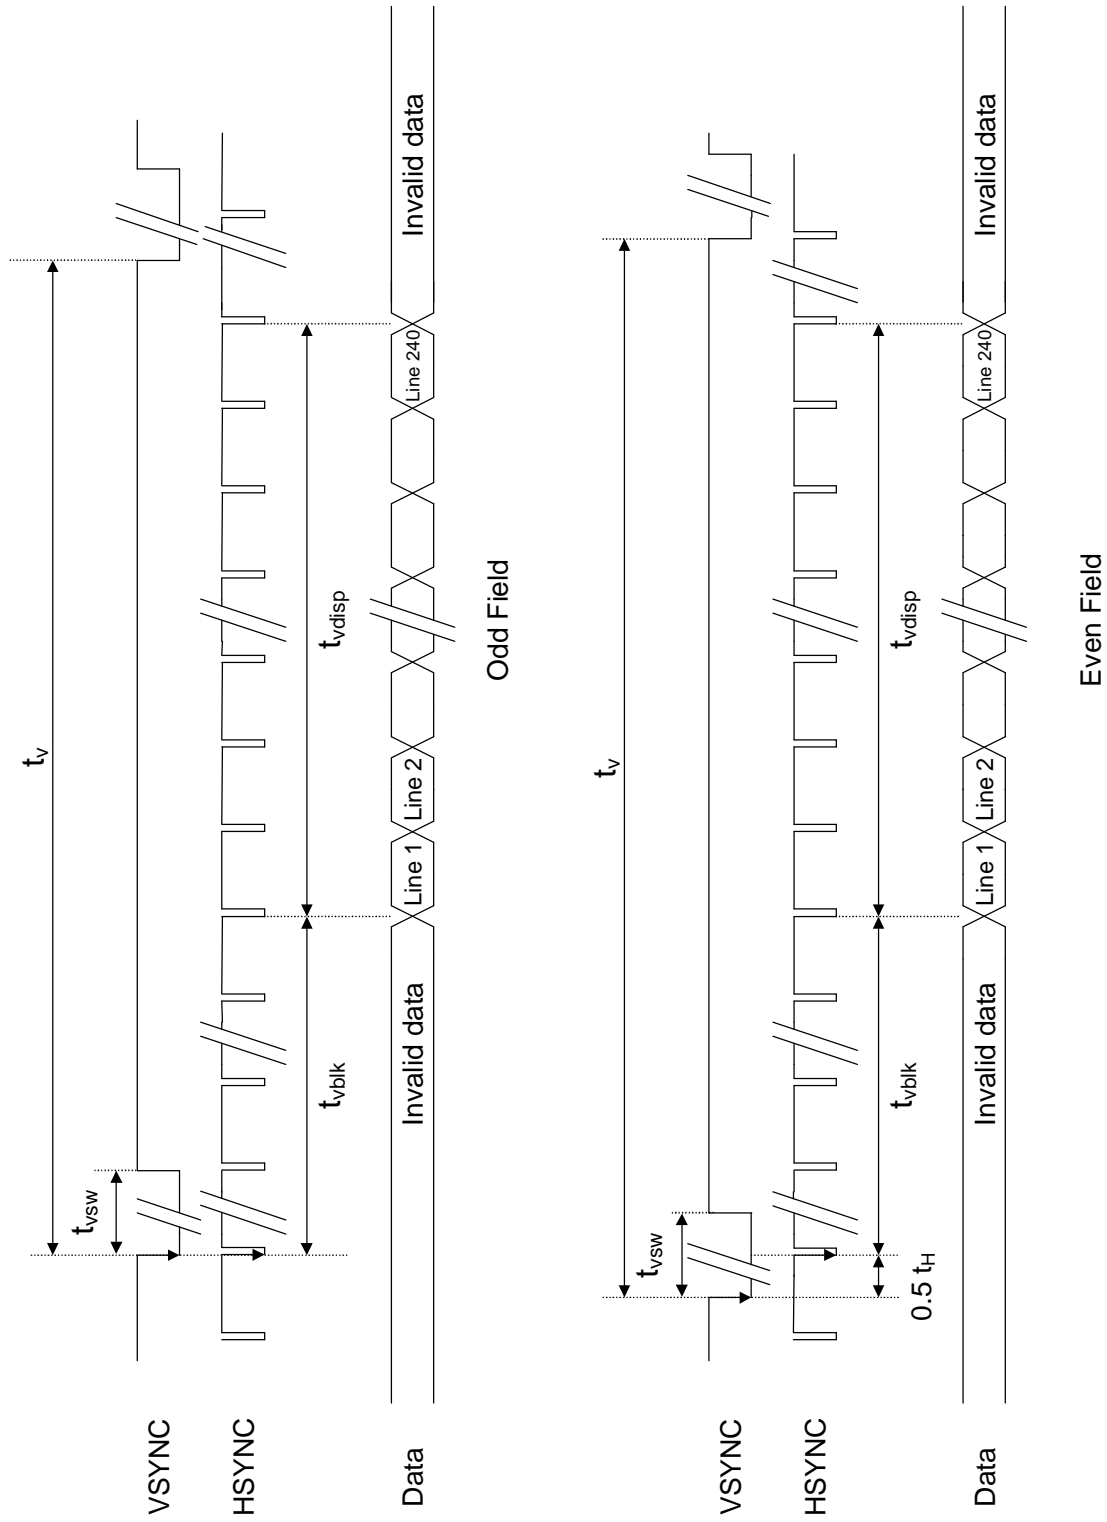

Fig. 2 UPS051 Input Vertical Signal
a. UPS051 (24MHz) Timing conditions (refer to Fig. 1, Fig. 2)
b. UPS051 (20MHz) Timing conditions (refer to Fig. 1, Fig. 2)